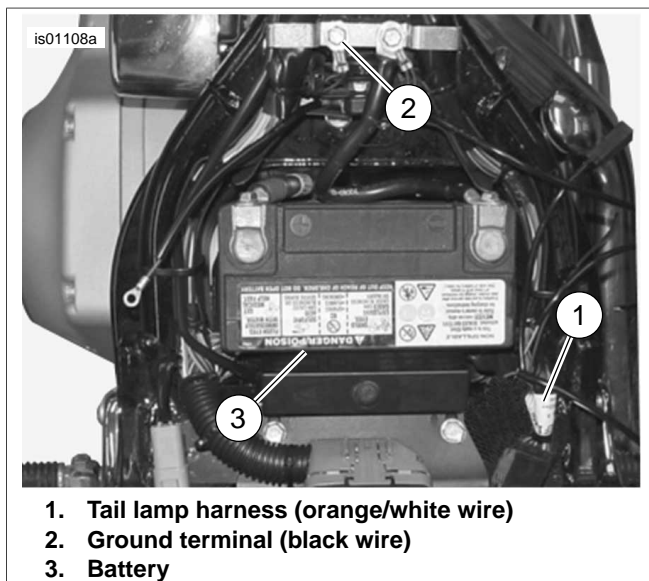

Figure 3. Power and Ground Connections (Softtail Models)
4. See Figure 3. Install the ring terminal onto the ground screw threads. Fasten the ground screw to the frame (2). Secure per the torque specification in the service manual.
1. See Figure 3. Carefully slice open an area of the tail lamp harness (1) wrap at an accessible point under the seat, and cut the orange/white wire.